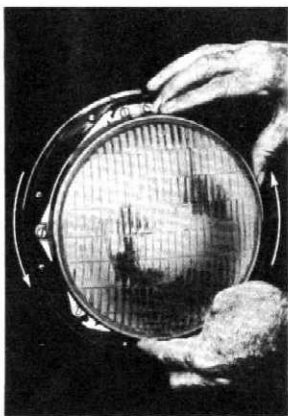

Fig. 39—Remove Retaining Ring
3. Remove retaining ring by rotating to the left, allowing the reflector unit to be removed. (See Fig. 39.)